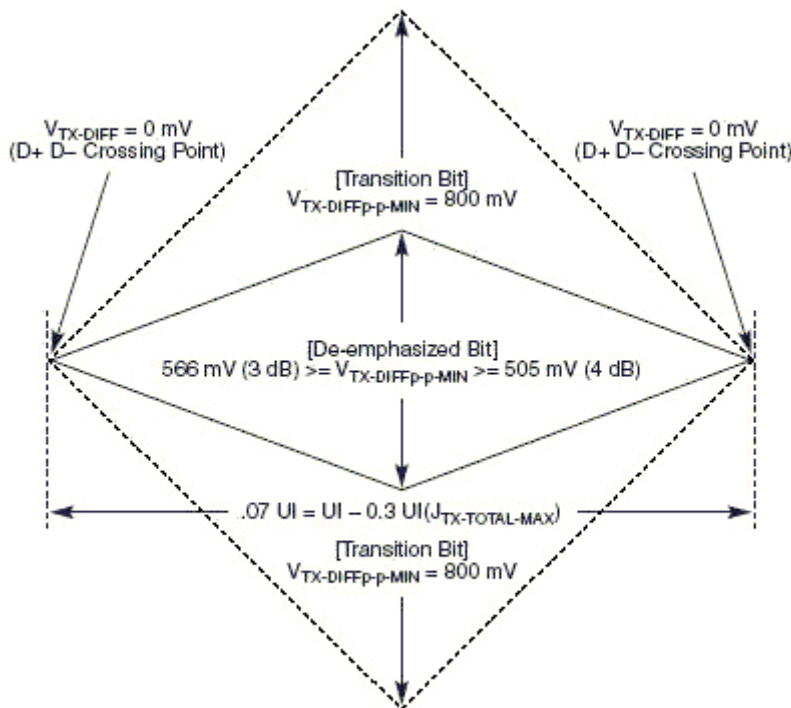
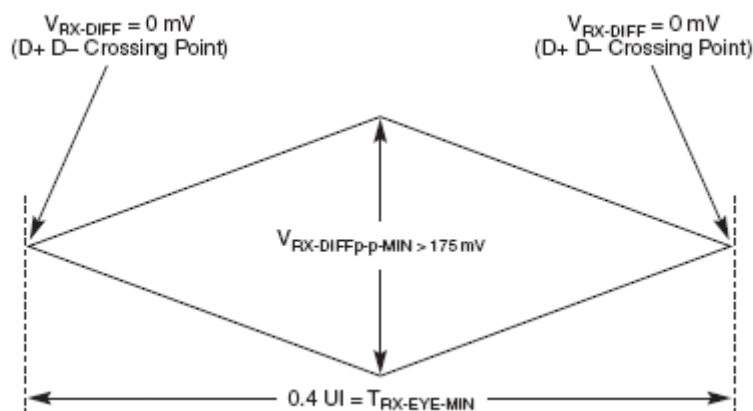
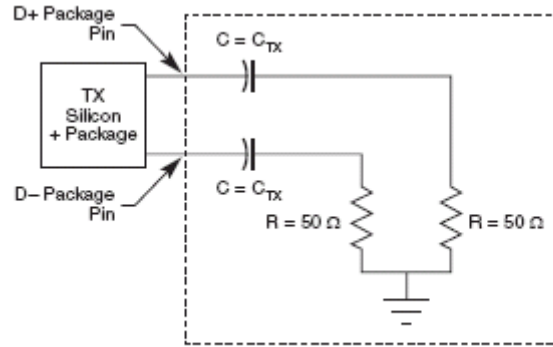

Figure 49. Minimum Transmitter Timing and Voltage Output Compliance Specifications
Figure 50. Minimum Receiver Eye Timing and Voltage Compliance Specification
Figure 51. Compliance Test/Measurement Load
2. Specified at the measurement point into a timing and voltage compliance test load as shown in Figure 51 and measured over any 250 consecutive TX UIs. (Also refer to the transmitter compliance eye diagram shown in Figure 49)
4. The Transmitter input impedance shall result in a differential return loss greater than or equal to 12 dB and a common mode return loss greater than or equal to 6 dB over a frequency range of 50 MHz to 1.25 GHz. This input impedance requirement applies to all valid input levels. The reference impedance for return loss measurements is 50  $\Omega$  to ground for both the D+ and D- line (that is, as measured by a Vector Network Analyzer with 50 ohm probes—see Figure 51). Note that the series capacitors  $C_{TX}$  is optional for the return loss measurement.
5. Measured between 20-80% at transmitter package pins into a test load as shown in Figure 51 for both  $V_{TX-D+}$  and  $V_{TX-D-}$ .
The TX eye diagram in Figure 49 is specified using the passive compliance/test measurement load (see Figure 51) in place of any real PCI Express interconnect + RX component.
2. Specified at the measurement point and measured over any 250 consecutive UIs. The test load in Figure 51 should be used as the RX device when taking measurements (also refer to the Receiver compliance eye diagram shown in Figure 50). If the clocks to the RX and TX are not derived from the same reference clock, the TX UI recovered from 3500 consecutive UI must be used as a reference for the eye diagram.
4. The Receiver input impedance shall result in a differential return loss greater than or equal to 15 dB with the D+ line biased to 300 mV and the D- line biased to -300 mV and a common mode return loss greater than or equal to 6 dB (no bias required) over a frequency range of 50 MHz to 1.25 GHz. This input impedance requirement applies to all valid input levels. The reference impedance for return loss measurements for is 50 ohms to ground for both the D+ and D- line (that is, as measured by a Vector Network Analyzer with 50 ohm probes—see Figure 51). Note: that the series capacitors CTX is optional for the return loss measurement.
The RX eye diagram in Figure 50 is specified using the passive compliance/test measurement load (see Figure 51) in place of any real PCI Express RX component.
Note: In general, the minimum Receiver eye diagram measured with the compliance/test measurement load (see Figure 51) will be larger than the minimum Receiver eye diagram measured over a range of systems at the input Receiver of any real PCI Express component. The degraded eye diagram at the input Receiver is due to traces internal to the package as well as silicon parasitic characteristics which cause the real PCI Express component to vary in impedance from the compliance/test measurement load. The input Receiver eye diagram is implementation specific and is not specified. RX component designer should provide additional margin to adequately compensate for the degraded minimum Receiver eye diagram (shown in Figure 50) expected at the input Receiver based on some adequate combination of system simulations and the Return Loss measured looking into the RX package and silicon. The RX eye diagram must be aligned in time using the jitter median to locate the center of the eye diagram.
The reference impedance for return loss measurements is 50. to ground for both the D+ and D- line (that is, as measured by a Vector Network Analyzer with 50. probes—see Figure 51). Note that the series capacitors, CTX, are optional for the return loss measurement.
The AC timing and voltage parameters must be verified at the measurement point, as specified within 0.2 inches of the package pins, into a test/measurement load shown in Figure 51.